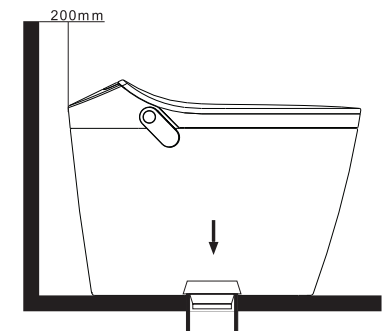

Figure 2
2. Connect the ceramics's sewage outlet to the sewage outlet and press the sludge as Figure 2.